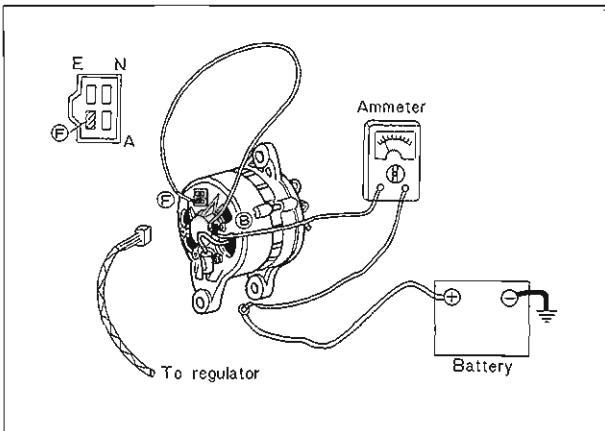

Fig. 5-18 Checking charging system
4. Make the short circuit for a moment by connecting "B" terminal and "F" terminal of the alternator with the suitable wire as shown in Fig. 5-18.